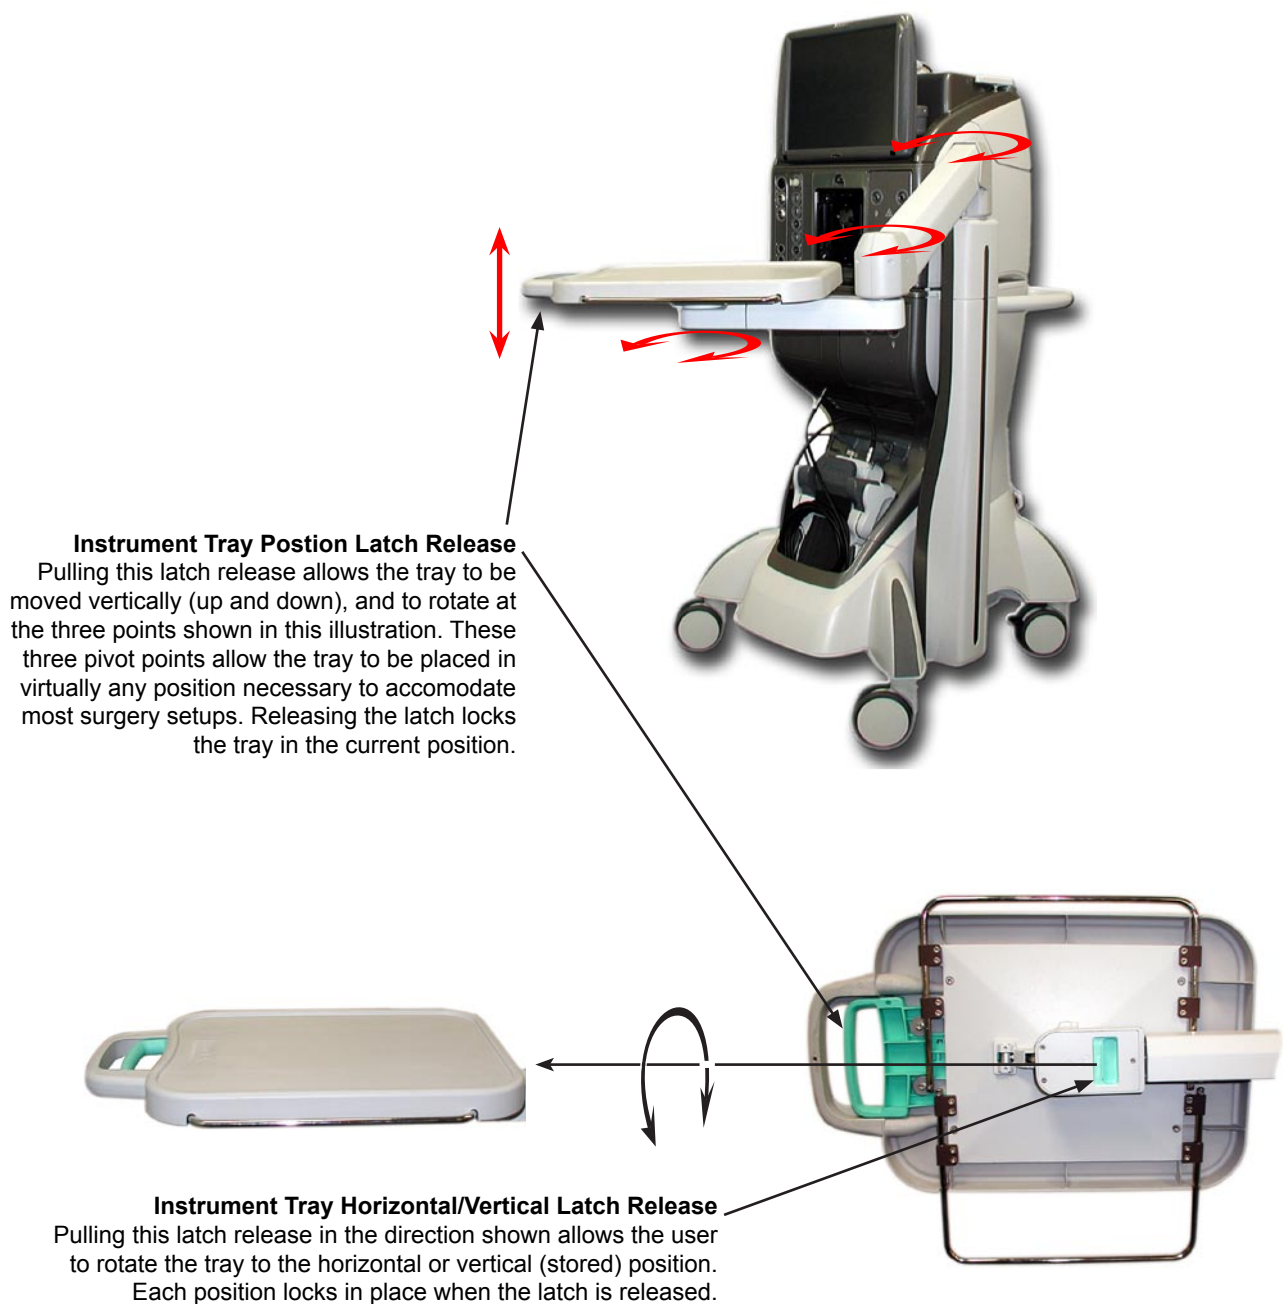

Figure 3-1 Positioning the Instrument Tray
The tray is capable of accommodating a variety of positions in the operating room environment: right, left, front and rear of the surgeon as well as the front of the bed. The tray height and position are adjustable by pulling the Instrument Tray Latch Release shown in Figure 3-1.
- 1 Pull the Horizontal/Vertical Latch Release (see Figure 3-1) and rotate the instrument tray to the vertical position shown in Figure 3-2.